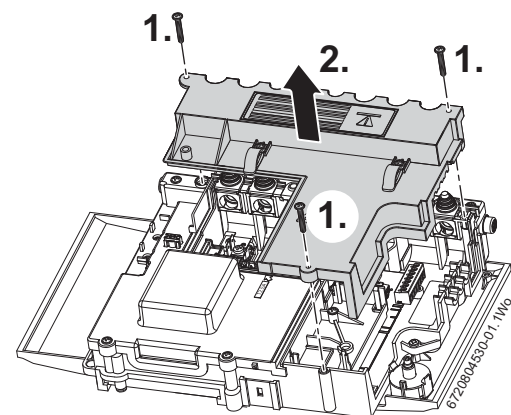

Fig. 53 Removing the connection cover (SMPS)
1. Refer to figure 53 and unscrew the three screws in the control panel.